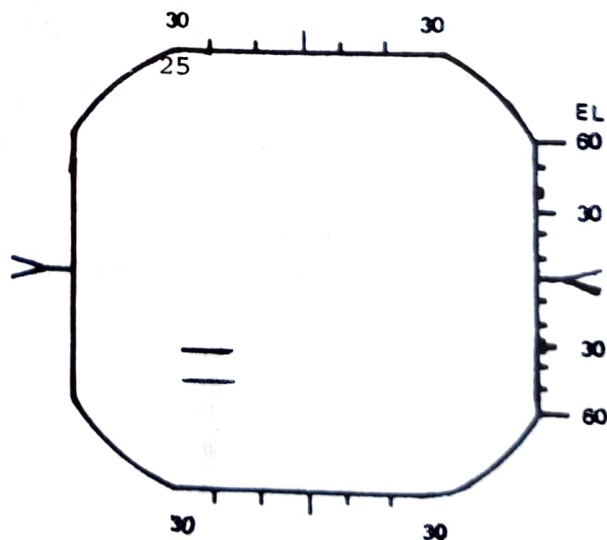

Figure 6 AN/APX-76A Interrogation: Shows
(2) Interrogation of Both Mode and Code Responses. When the four digit code of the target transponder is selected, as well as the mode, an additional line appears on the display 0.5NM farther in range than the target (1NM in 100 and 200 NM scope ranges). Note: To receive a Mode 1 correct code reply, the last two digits in the code window must be zero. Figure 6 shows the display with both mode and code selected on the AN/APX-80A control panel.